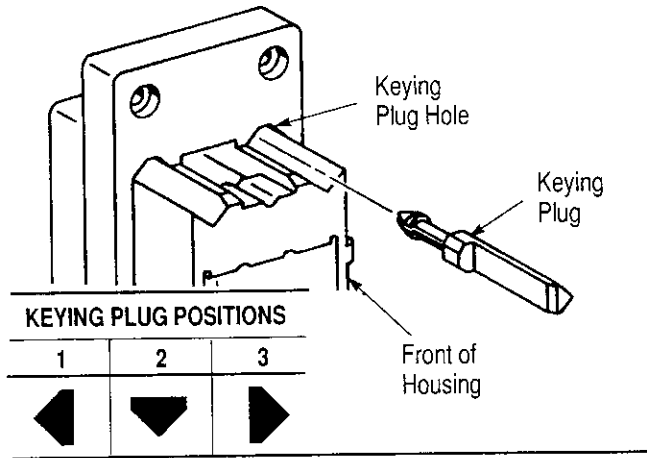

Figure 4
5. KEYING PLUG INSTALLATION (Figure 4)
Keying Plugs 206545-1 can be placed in three different positions in two keying plug holes in each connector. To install, determine keying pattern and align keying plug with keying plug hole in FRONT of connector, as shown in Figure 4. Insert plug straight into hole until it bottoms.